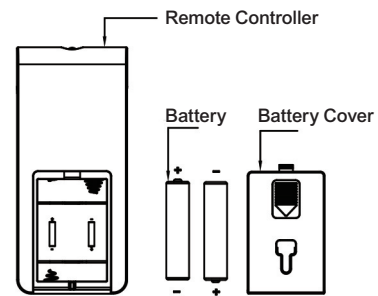

Fig. 7
- (b) Insert the batteries and make sure that the batteries are placed as shown in the picture. (see Fig. 7)